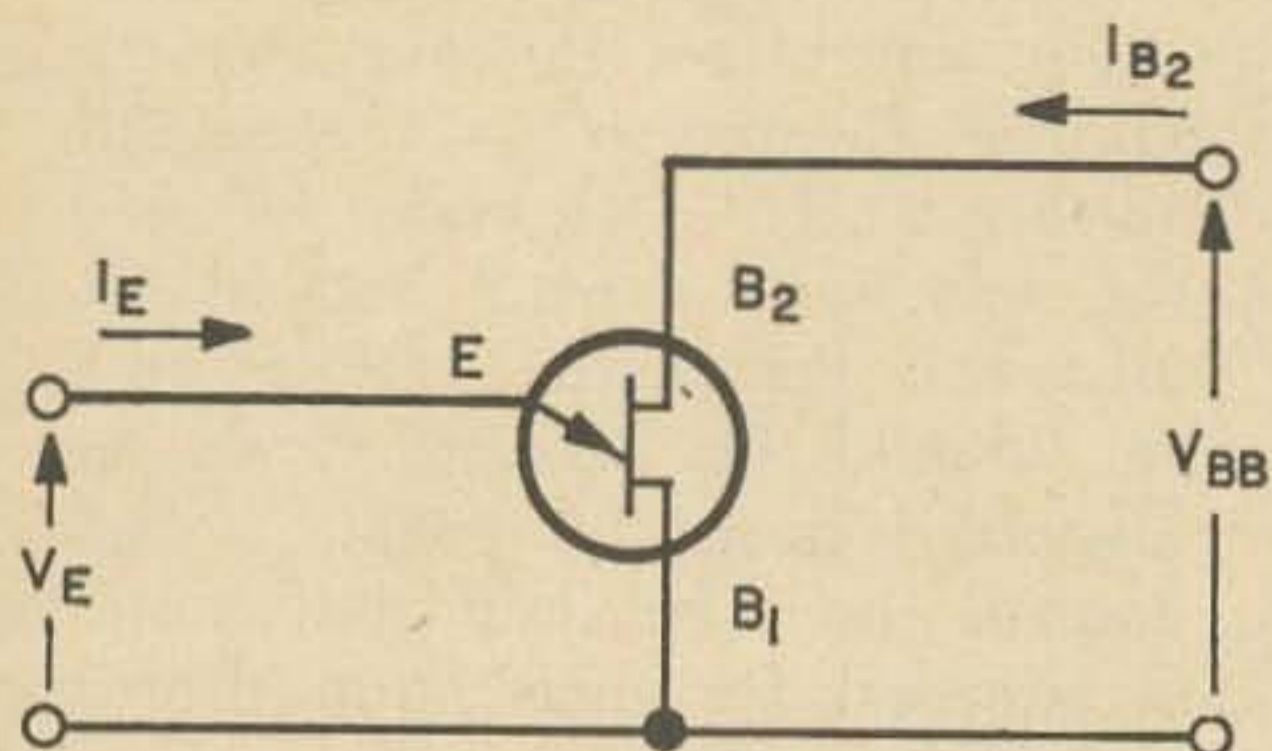
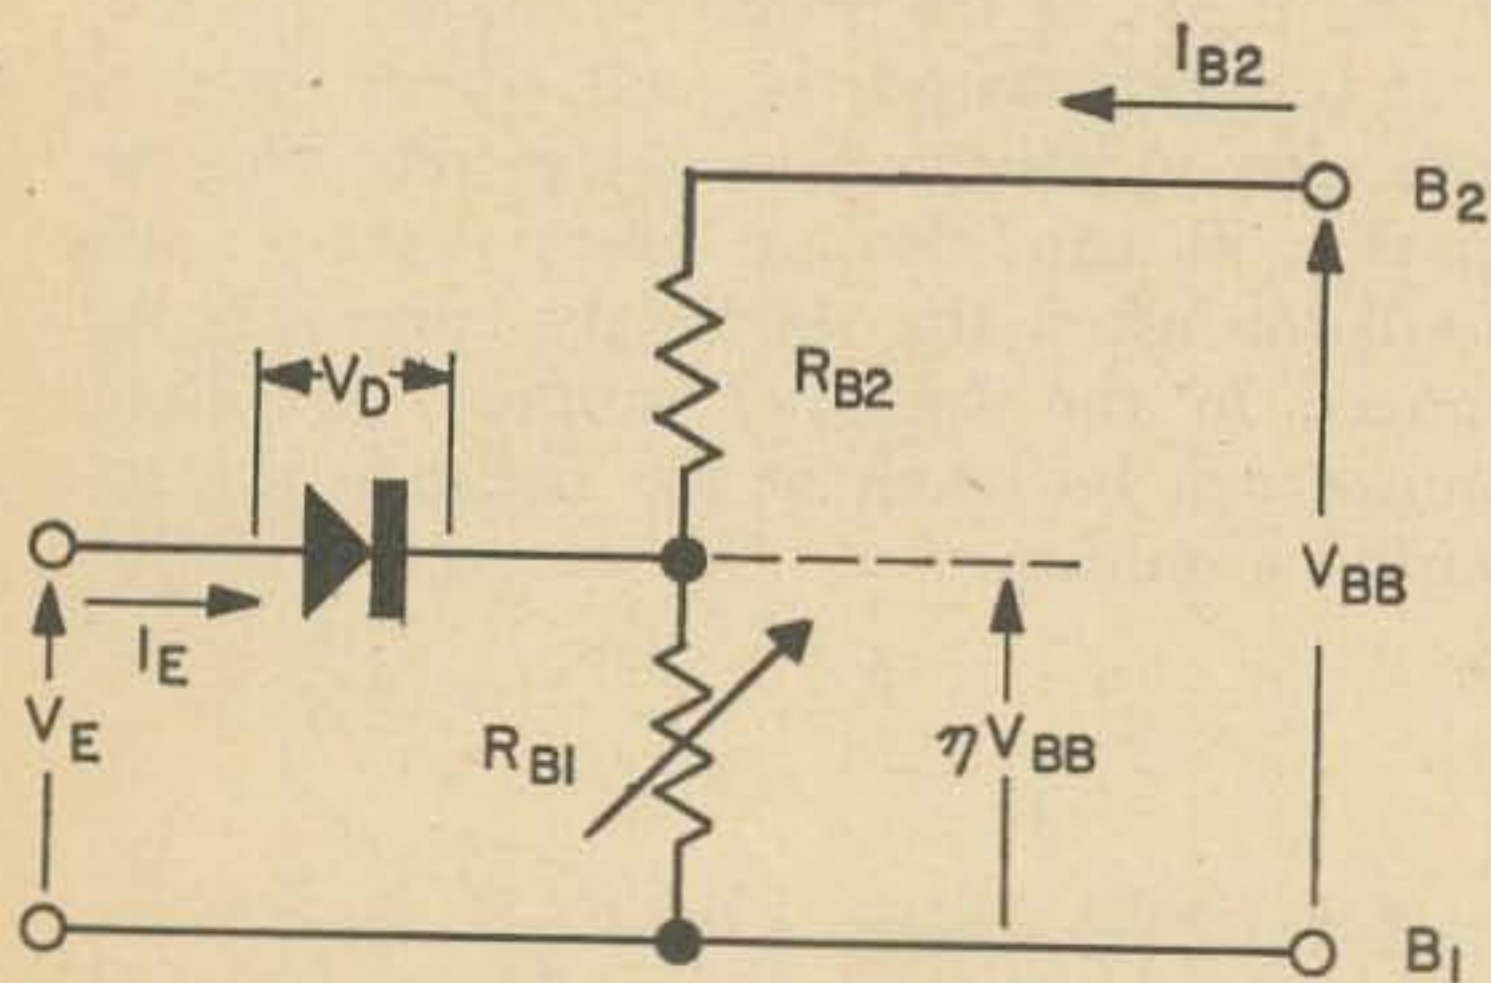
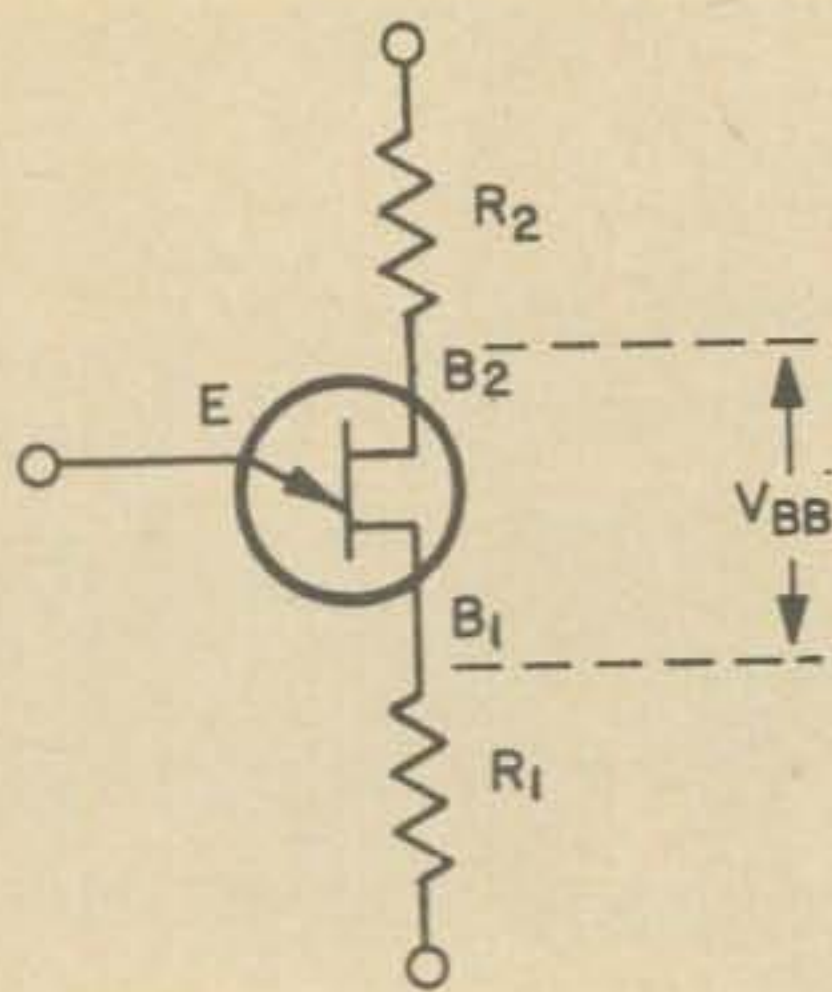

Fig. 1. The symbol and conventions for current flow in the Unijunction transistor.
Fig. 2. A simplified equivalent circuit where R_{B2} plus R_{B1} represents the resistance between B_2 and B_1 .
Fig. 10. Resistor R_2 compensates for temperature variations.
Perhaps you have seen this rather unusual name in technical journals. Perhaps you have seen an odd-looking symbol (see Fig. 1) in a circuit in those very same technical journals. Perhaps you have wondered what this little device does—with its symbol that vaguely resembles that of a conventional transistor but actually behaves much differently. The thing looks (and behaves) like some weird paradox—it has an emitter in the wrong place and *two* (yes two) bases—which incidentally gives us its other name—“The Double-Base Diode,” which tends to confuse matters even further.
Fig. 1 shows its symbol and the conventions for current flow in the device. Fig. 2 gives a simplified equivalent circuit. Now, referring to Fig. 2, R_{B2} plus R_{B1} represents the resistance between B_2 and B_1 . This is known as the interbase resistance, R_{BB} , and is generally in the range 4K and 12K ohms. This is the resistance of a bar of N-type silicon with two contacts at either end. Now another contact of P-type material is placed somewhere between B_2 and B_1 on the N-type silicon bar and this forms a rectifying or diode contact called the emitter (E).
The various parameters and characteristics of a UJT are subject to temperature variation; some more so than others. Now V_p will vary with temperature and is principally due to variation in V_D (see Fig. 2). This effect is usually compensated for by a resistor, R_2 , in Fig. 10. As the temperature increases so will R_{BB} ; V_{BB} will increase owing to the voltage divider action of R_2 , R_{BB} and R_1 .
this equation is only approximate and some juggling of R_2 might improve the compensation, but generally it will be close enough for a wide range of UJT's. Also, for the circuit in Fig. 10 V_p is given by: $-V_p = V_1$.